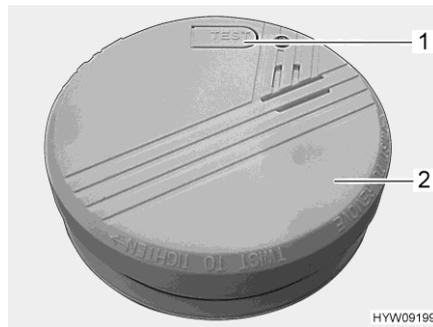

Fig. 64 Smoke alarm
- Press the test button (Fig. 64,1) on the smoke alarm (Fig. 64,2) until the alarm tone sounds. The alarm tone falls silent after the test button is released.